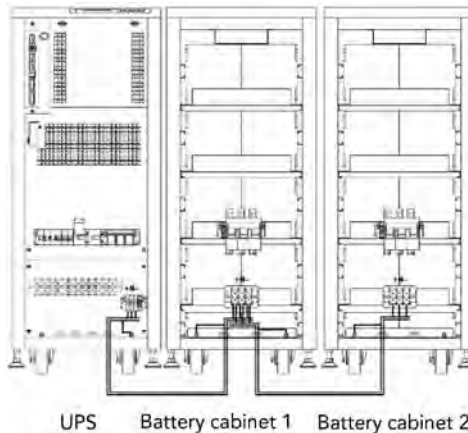

Fig.20: Connection example between a UPS and two battery cabinets
UPS connection with battery pack will be implemented with the supplied trunk cable by connecting one side to terminals (X11), (X23) and (X12) of the UPS and the other one to terminals (X47), (X49) and (X48) on the battery pack. Always respect the stated polarity in the labeling of each part and in this manual. The color of the cables (red for positive, black for negative, blue for middle tap (N) and green-yellow for earth bonding), see Fig. 20.